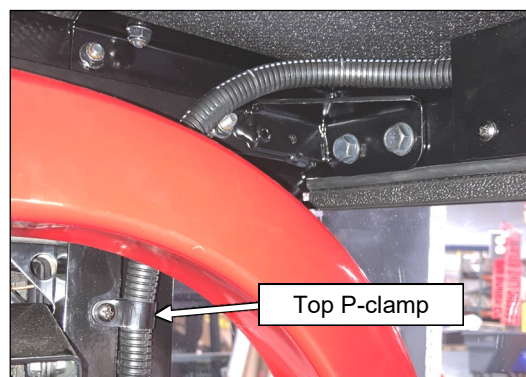

Fig. 1.10 (Routing Harness Around Corner)
- 1.10** Run the harness above the upper corner bracket and forward along the door header tube and over to roughly the center of the windshield. See Figure 1.10.